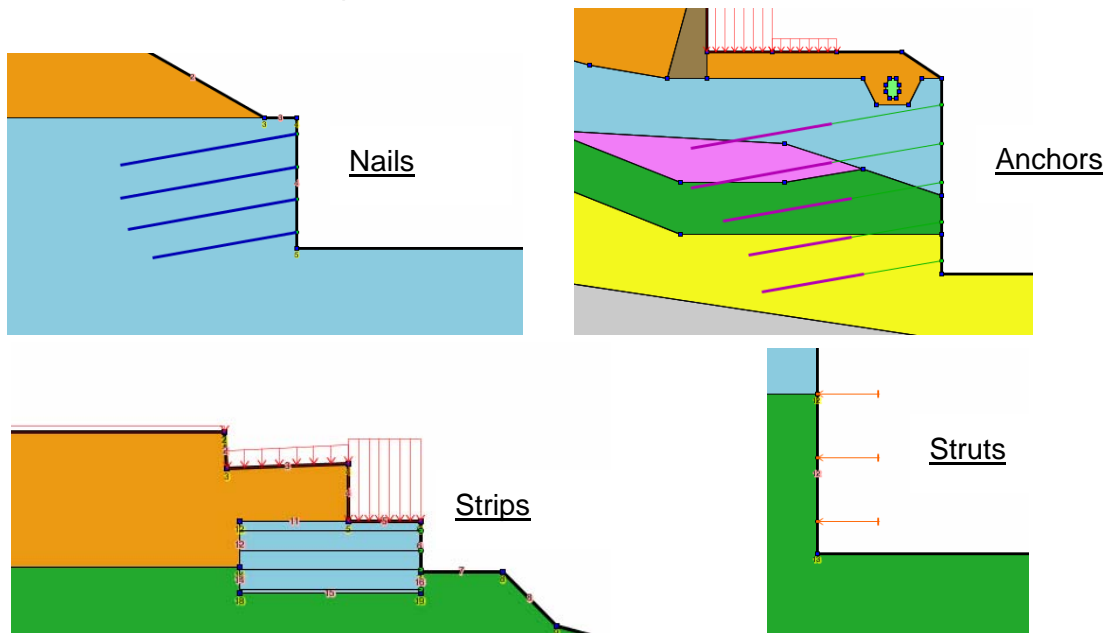

Figure 39: graphical display of reinforcements
- **Angle/horizontal (°):** default value is zero. It is positive in the case illustrated on Figure 39 (trigonometrical direction);